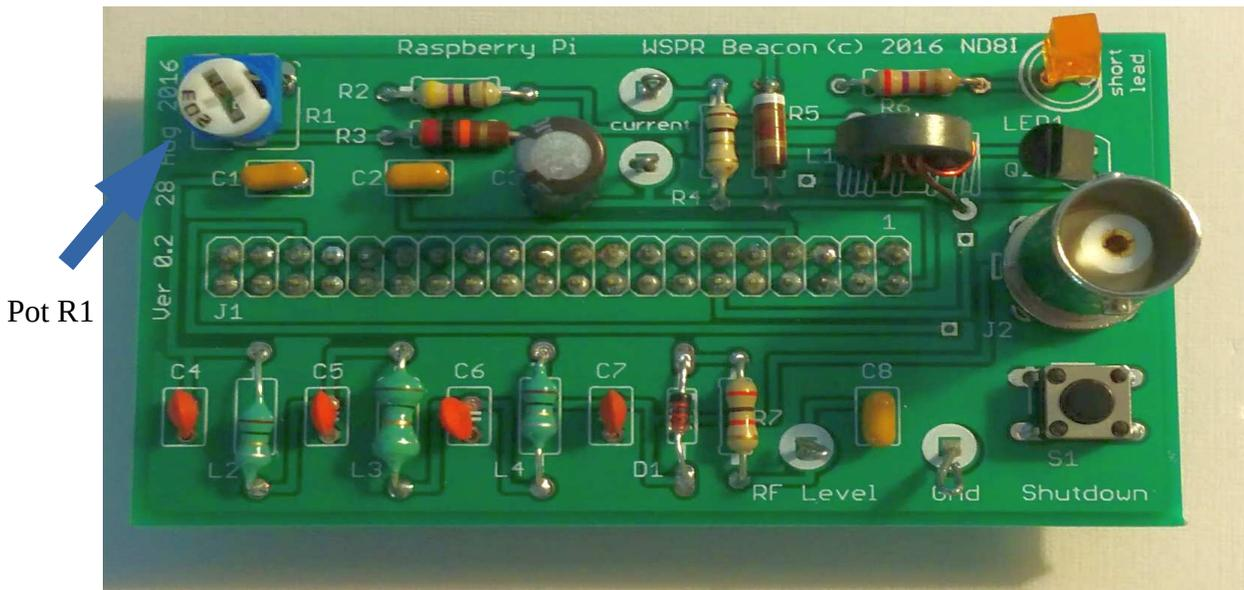

Figure 7: Populated Circuit Board
8. Solder four short pieces of wire (what's left from the resistor leads works just fine here) into the holes marked *RF Level*, *Gnd* and *Current*. There are two holes by *Current*. Clip the wires to about 3/4" and make a small loop in the ends (see Figure 7: Populated Circuit Board and Figure 8: Populated Circuit Board (Side View)).
4. Using the DVM, measure the voltage across the terminals labeled *current* on the AFB (near the toroid). Turn pot *R1* on the AFB **clockwise** until the voltage across the terminals is roughly 0.030 volts. It's not really critical, just get it in the general range (say 0.025-0.035 volts) (see Figure 7: Populated Circuit Board and Figure 8: Populated Circuit Board (Side View)).